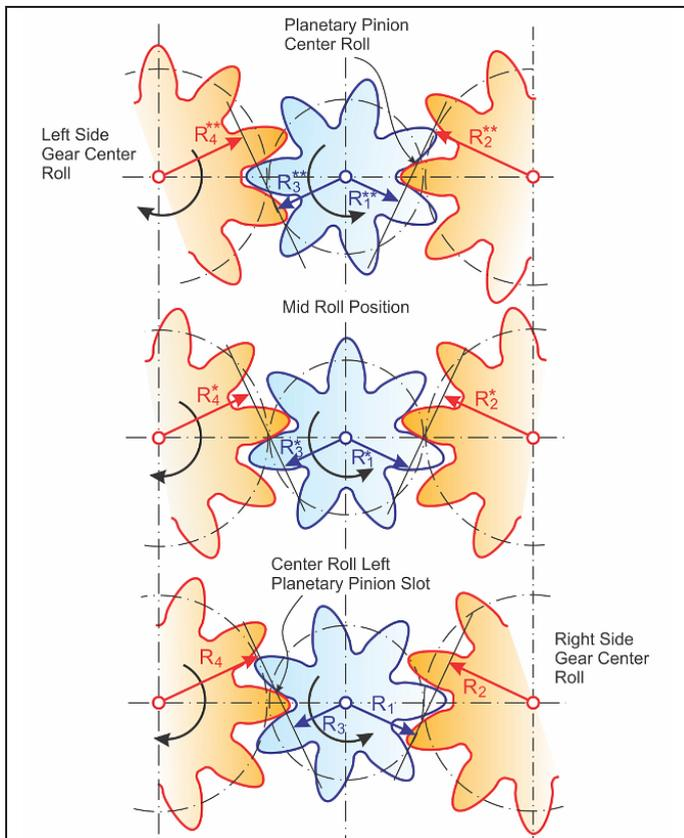

Figure 1 Principle of ratio change, from bottom to top.
**How a ratio change can improve traction.** The schematic graphic (Fig. 1) shows an unrolled differential with the planetary pinion in the center and the side gears left and right. Forward driving is accomplished in this model by moving all three gears from their top position in Figure 1 to the middle position and down to the lower position. In case of good traction, this is happening without any relative rotation of the three shown differential gears. In case the left wheel (which is connected to the left-side gear) slips, then in the model the left-side gear will rotate clockwise, while the unit moves downwards in the graphic. This will cause a counterclockwise rotation of the planetary pinion while it rotates together with the differential carrier around the axis of the two side gears.
One complete cycle of the sequence (Fig. 1) only lasts a fraction of a second, which is why the unit constantly provides torque impulses to the wheel which has traction, while the other wheel spins free.